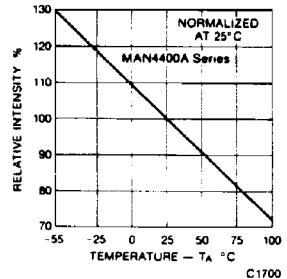

Fig. 3. Relative Luminous Intensity vs.
2. The curve in Figures 3, 6, 9, and 12 is normalized to the brightness at 25°C to indicate the relative Luminous Intensity over the operating temperature range.